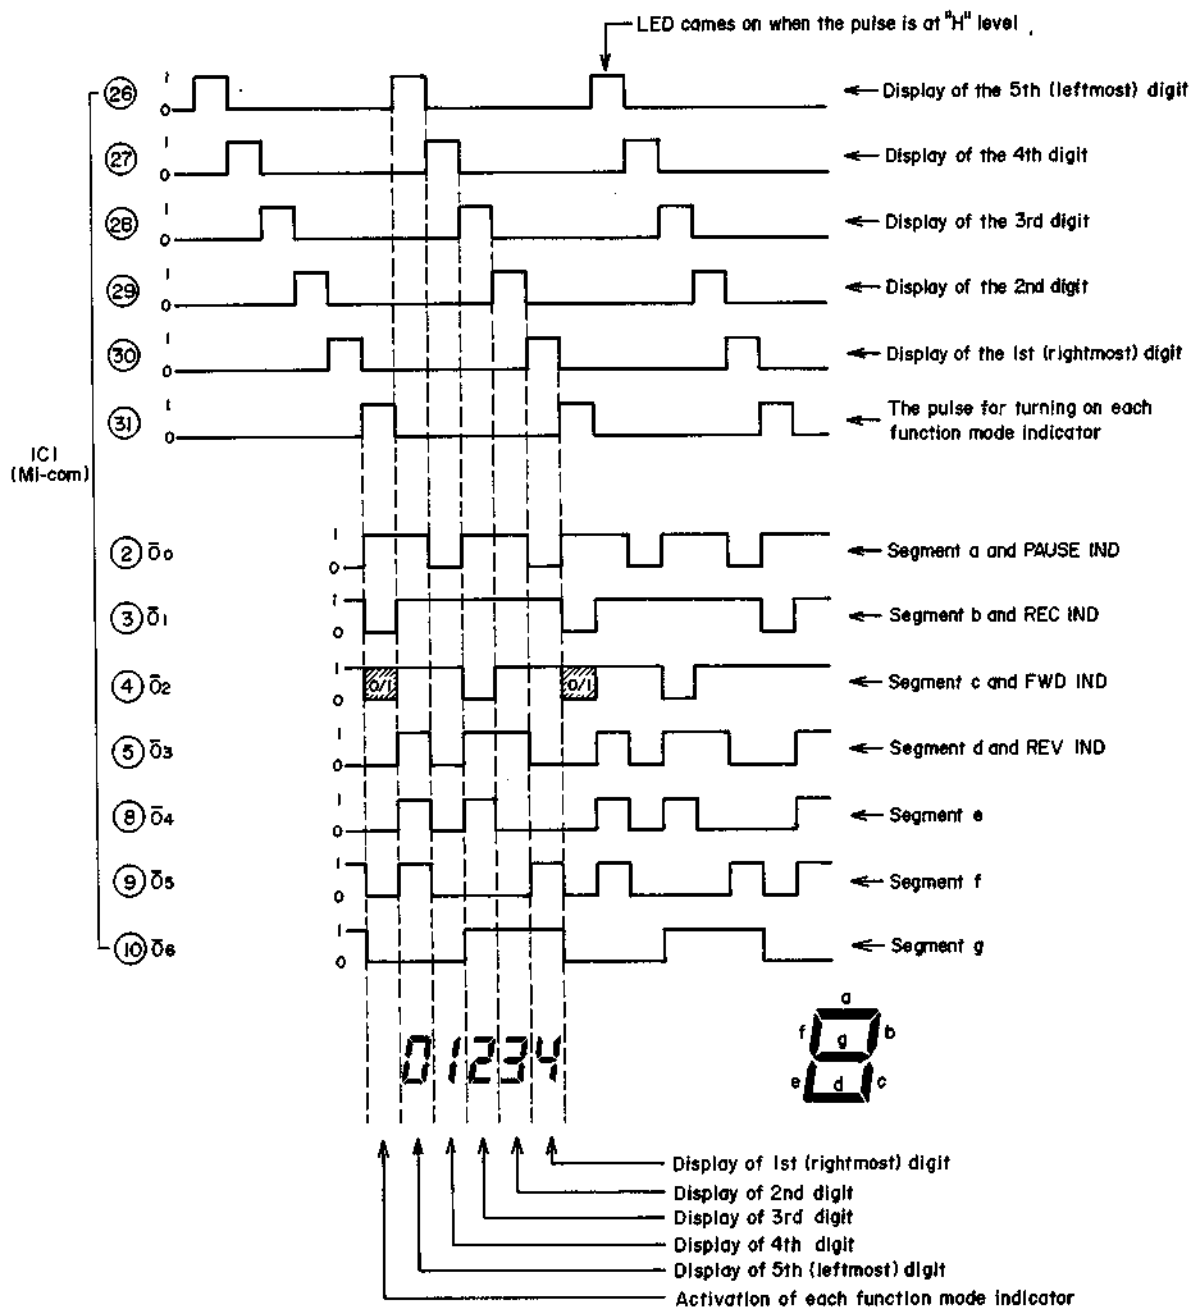

Fig. 23
Here we will explain about the situation in Fig. 23 (FWD PLAY/PAUSE) as one example. Hereinafter FWD PLAY is just written as PLAY. Under PLAY/PAUSE, PAUSE of the function mode indicator is always lit and PLAY is flashing. Firstly, refer to the vertical row of the function mode indicators of O0 - O3 in Fig. 23. You will note that PAUSE IND has "H" level, PLAY IND has "L/H" flashing and others have "L" level.
Fig. 23 shows the timing chart. By means of the waveforms of IC ⑳ - ⑳ coming from the microcomputer, the lighting position of LED of each digit is moved in sequence. Take the example of the first digit.
tion of $\bar{O}_0 - \bar{O}_6$ of the first digit indication in Fig. 23, b, c, f, and g segments are lit and a, d and e segments are dark. In this condition, the indicator indicates 4. Similarly if we look at the 2nd - 5th digits, 01234 is indicated in the condition of Fig. 23.